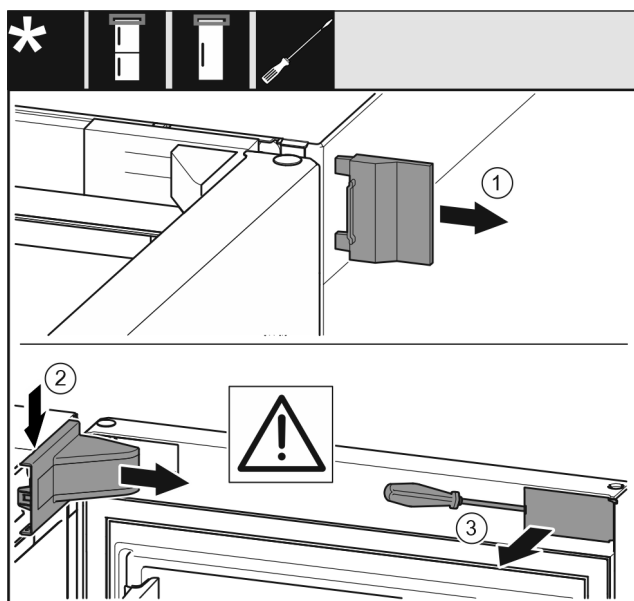

Fig. 4
- ▶ Remove the outer cover. Fig. 4 (1)
- ▶ Disengage and release the bearing bracket cover. Remove the bearing bracket cover. Fig. 4 (2)
- ▶ Unlatch the panel with a slotted screwdriver and swivel it to one side. Fig. 4 (3)